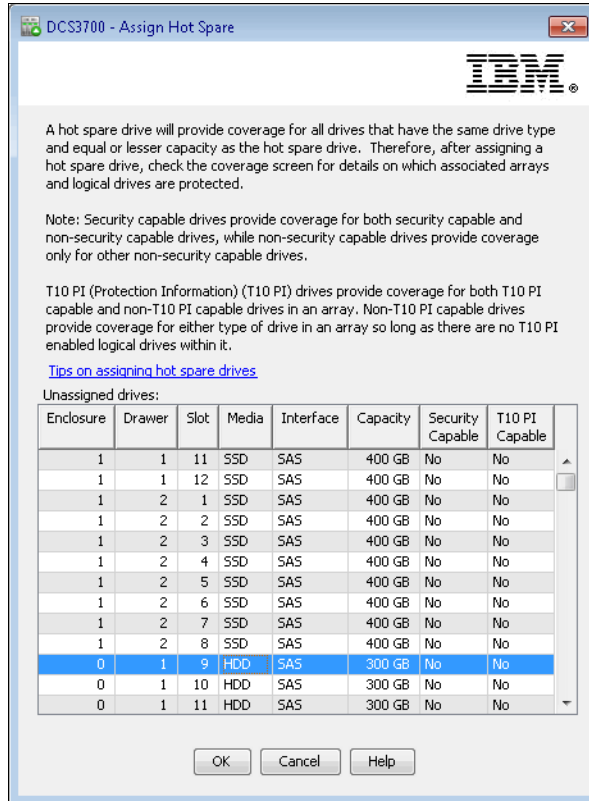

Figure 9-14 Assign Hot Spare
- ▶ The Hot spare coverage pane shows all the arrays and whether they are protected by hot spare disk drives. If an array is selected in this left pane, in the right Hot spare drives pane, you see the hot spare disk drive as assigned. If you select an array that has no hot spare disk drive that is defined, you can click **Assign**, and a new window opens (Figure 9-14).